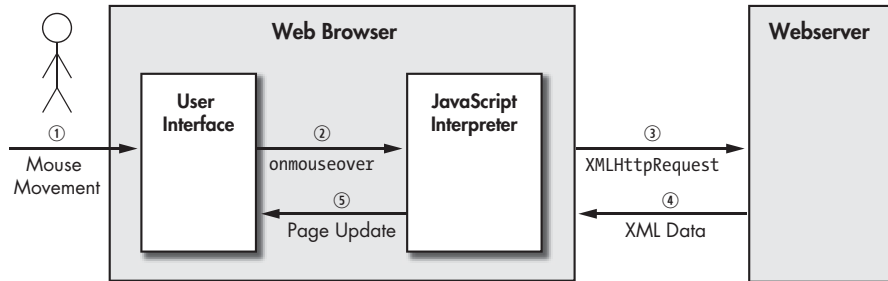

Figure 8-7: Typical Ajax sequence.
Figure 8-7 shows an example of how the Ajax communication mechanism works. The exchange in this figure is initiated when the user mouses over an active element on the web page at event ①. An onmouseover action is triggered and JavaScript code is executed in the web browser at event ②. The JavaScript code creates an XMLHttpRequest object with the URL of the server-side script and a JavaScript callback function, and the web browser then sends the XMLHttpRequest object to the server at event ③. On the server side, the particular script identified by the URL responds with XML data at event ④.